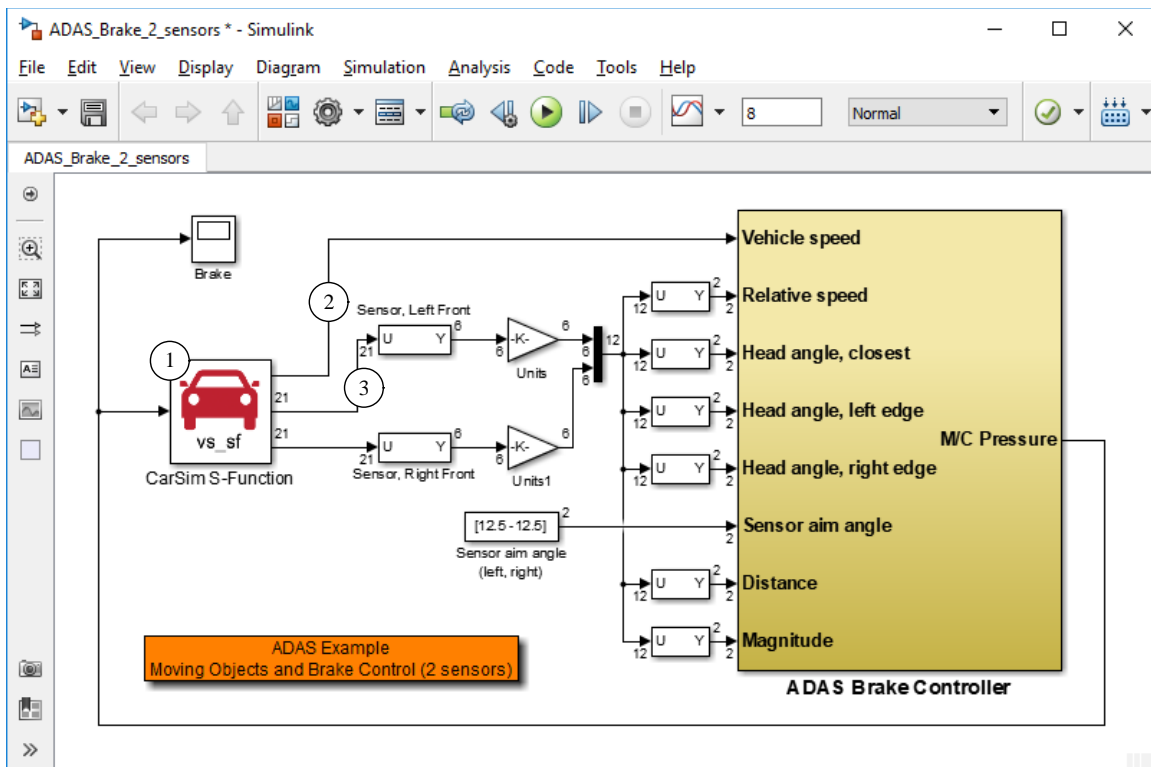

Figure 2. Simulink Model with ADAS Controller for CarSim.
Click the button **Send to Simulink** to view the Simulink model (Figure 2). There are a two things to note about the Vehicle S-Function (4):
2. The first port (2) has a single signal. The other two ports (3) each have 21 signals.